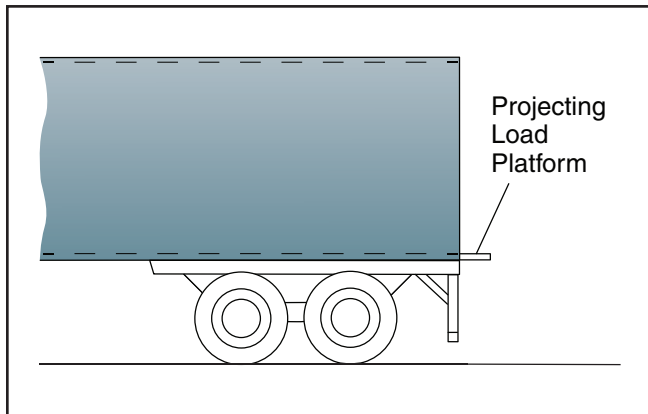

Figure 72
- Do not work well with trucks with rear loading platforms (Figure 72)
- Trucks with rear platforms (Figure 72)